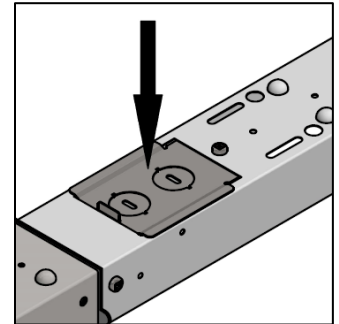

Figure 3
3. If necessary, open the access panel part shown in Figure 3 with the help of a square head screwdriver for power supply wiring. After unscrewing completely, push the part forward. Then, pull out the backend of the part from the fixture and remove it by pushing the part backwards and out of the fixture. Keep the screw in a safe place; will be required later. Otherwise, remove one knockout from access panel part.